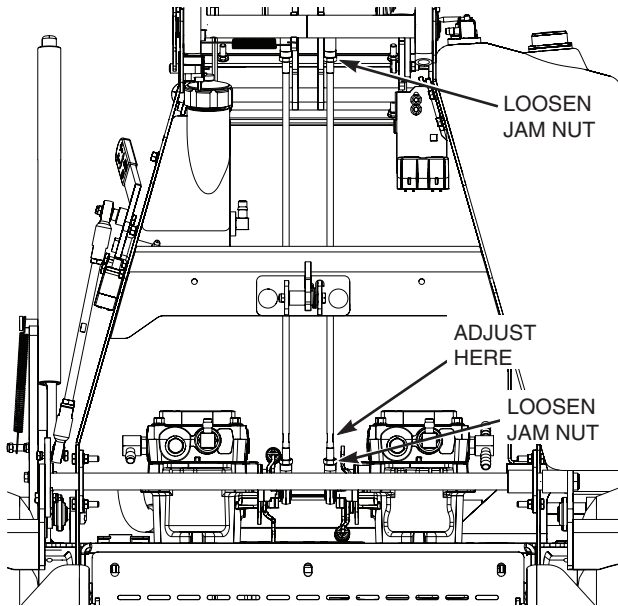

Figure 6-2. Tracking Adjustment Right Side
4. Adjust the RH wheel by loosening the jam nuts on the steering control rod and turning the rod until the drive wheel turns in the forward direction. Turn the rod back until the drive wheel stops moving. Turn the rod an additional 1/2 turn. See Figure 6-2.
A. Stop the machine and place the steering control levers in the neutral position. Loosen the lock nuts securing the ball joints at each end of the RH steering control rod. Rotate the control rod to lengthen the rod and tighten the lock nuts. This will cause the control rod to stroke the RH pump less, slowing down the RH wheel. See Figure 6-2.